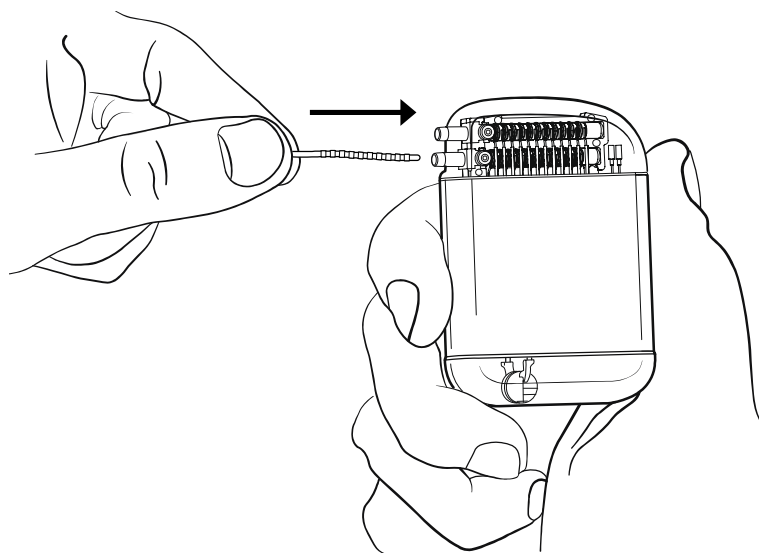

Figure 6.3: Inserting the proximal connectors into the CLS header.
3. Slide the proximal connector end of the lead or lead extension into its port in the header of the CLS (refer to Figure 6.3).